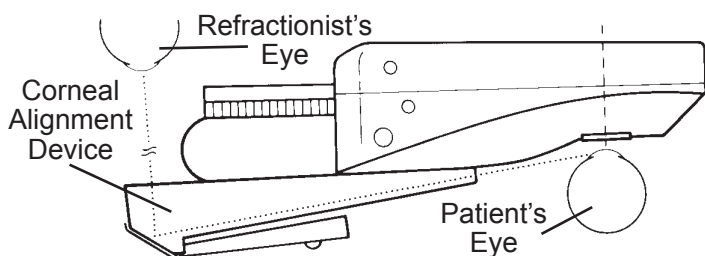

Figure OC-1 Corneal Alignment Device
8. In the Phoroceptor, this condition is obtained when the zero setting of the sight in the Corneal Aligning Device is lined up with the apex of the cornea. Refer to Figure OC-1.